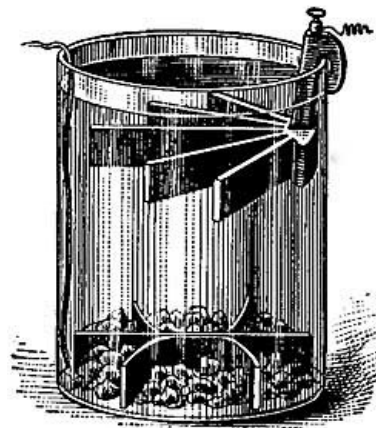

FIG. 198.— The gravity cell.
**285. The Gravity Cell.** A large, irregular copper electrode is placed in the bottom of a jar (Fig. 198), and completely covered with a saturated solution of copper sulphate. Then a large, irregular zinc electrode is suspended from the top of the jar, and is completely covered with